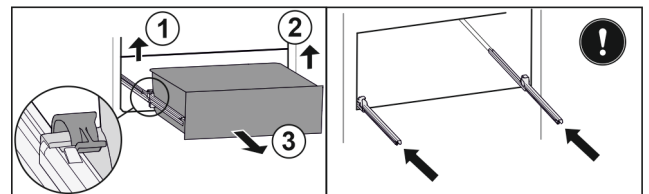

Fig. 26*
- ▶ Lift the left clamp and simultaneously pull the drawer on the left forwards Fig. 26 (1).*
- ▶ Lift the right clamp and simultaneously pull the drawer on the right forwards Fig. 26 (2).*
- ▶ Take out the drawer to the front Fig. 26 (3).*